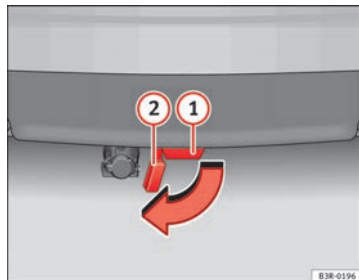

Fig. 152 Rear bumper:
- Remove the cover piece ② ⇒ fig. 152 on the mounting fixture ① below the bumper as far as it will go. The cover piece is held automatically in the open position.